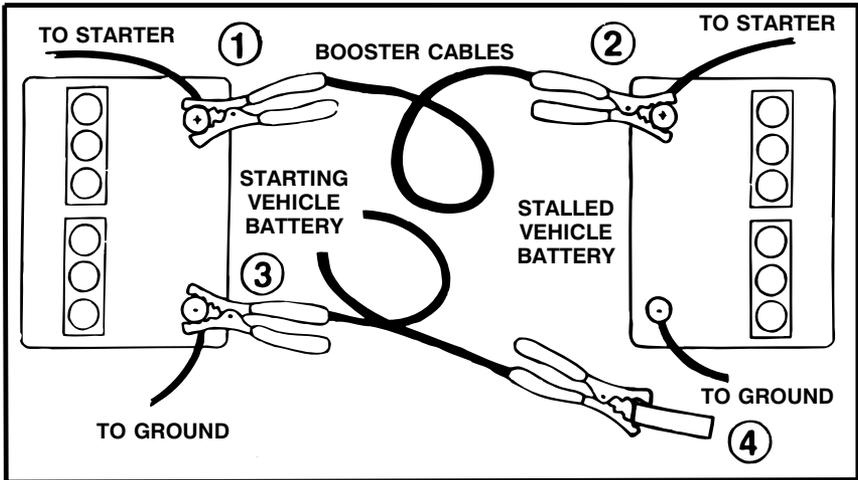

FIGURE 25
2. Attach the second jumper cable from the Negative terminal of the good battery to the **FRAME OF THE UNIT WITH THE DEAD BATTERY**. See Figure 25.